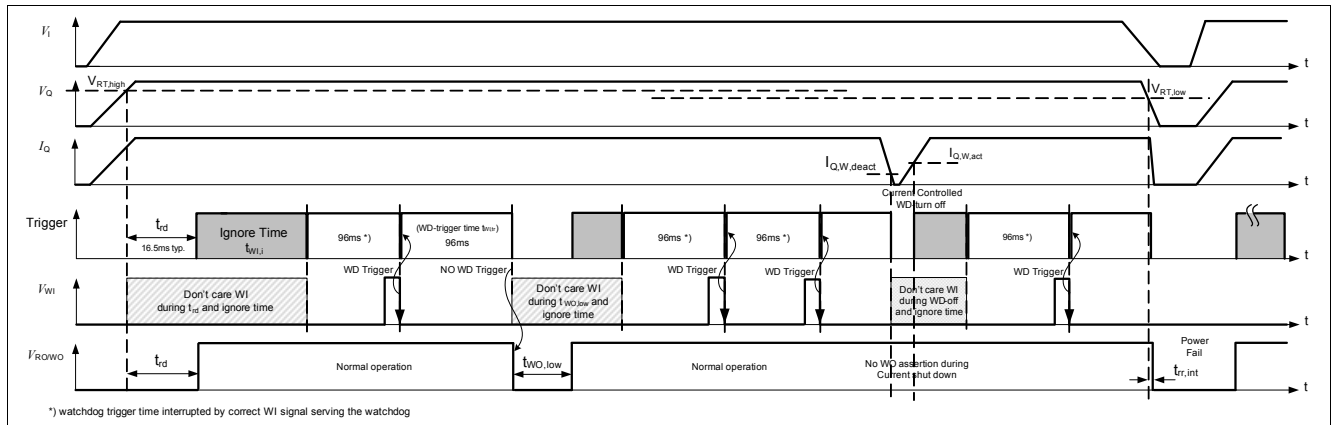

Figure 9 Typical Watchdog Timing Diagram, Watchdog and Reset Modes
Figure 9 shows the state diagram of the watchdog (WD) and the mode selection. After power-on, the reset output signal at the "RO/WO" pin (microcontroller reset) is kept LOW for the reset delay time t_{rd} . With the LOW to HIGH transition of the signal at "RO/WO" the device starts the watchdog ignore time $t_{WI, i}$. Next, the WD starts the watchdog trigger time (time frame within a trigger at WI must occur).